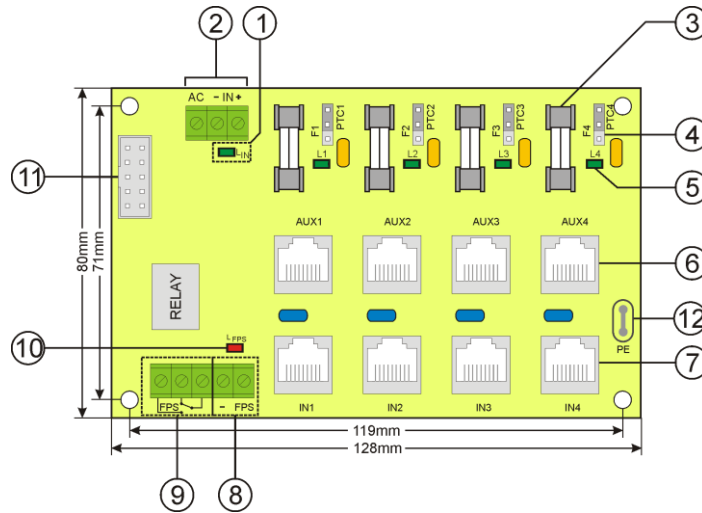

Fig. 2. Components arrangement.
Component No. [Fig. 2]	Description
Additionally, the PSU is fitted with LED lights inside the enclosure – see Fig. 2 and 3:
- **L_{IN}** green LED (Fig. 2, component 1) indicates DC voltage at the PoE module input. During normal operation (DC supply) the LED is permanently illuminated. No DC no DC voltage at the module input is indicated by turning off the **L_{IN}** LED.
- **L_{FPS}** red LED (Fig. 2, component 10) is not illuminated during normal operation (no failure). In case of activation of the short circuit / overload protection at any output, the LED is permanently illuminated.
- **L1 ÷ L4** green LEDs (Fig. 2, component 5) indicate voltage at the individual outputs of the module (L1 for AUX 1 etc.). Activation of the short circuit / overload protection of a given circuit is indicated by turning off one of the Lx LEDs.